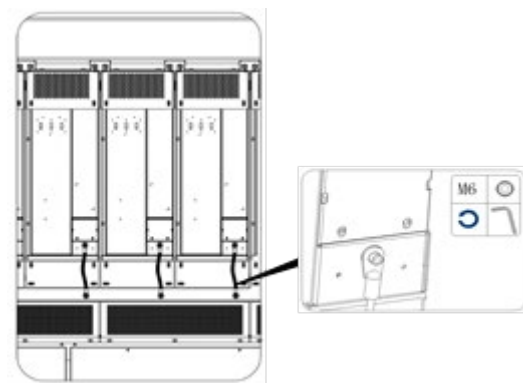

Figure 1 Disassembling the grounding cable of the module
1. Remove the ground wire of the converter module that needs to be replaced, as shown in Figure 1 below;